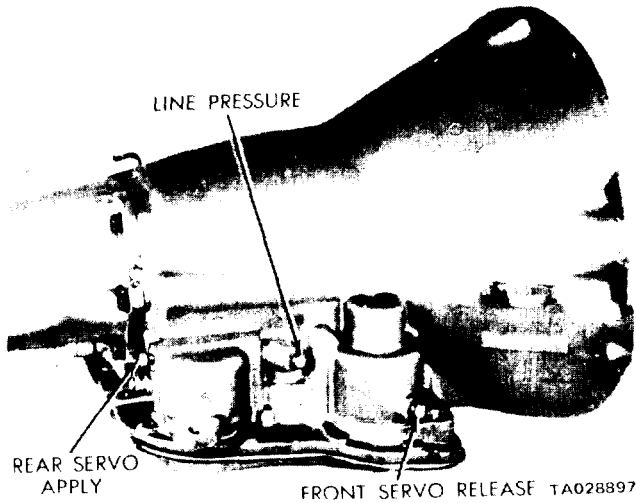

Figure 4-30. Pressure Test Locations (Right Side of Case).
(1) Install a tachometer so it can be read under the vehicle.
(2) Connect two 100 psi pressure gages (minimum) to the pressure take-off points at the side of the accumulator and at the front servo release (figure 4-30).
(3) With the control in "D" speed up the engine slightly until the transmission shifts into direct drive. (The front servo release will then be pressurized.) Reduce engine speed slowly to 1,000 rpm. Line pressure must be 54-60 psi, and front servo release pressure must not be more than 3 psi below the line pressure.
(4) Disconnect the throttle linkage from the transmission throttle lever and move the throttle lever gradually to the full throttle position. The line pressure must rise to a maximum of 90-96 psi just before or at kickdown into low gear. Front servo release pressure must follow the line pressure up to the kickdown point and should not be more than 3 psi below line pressure.